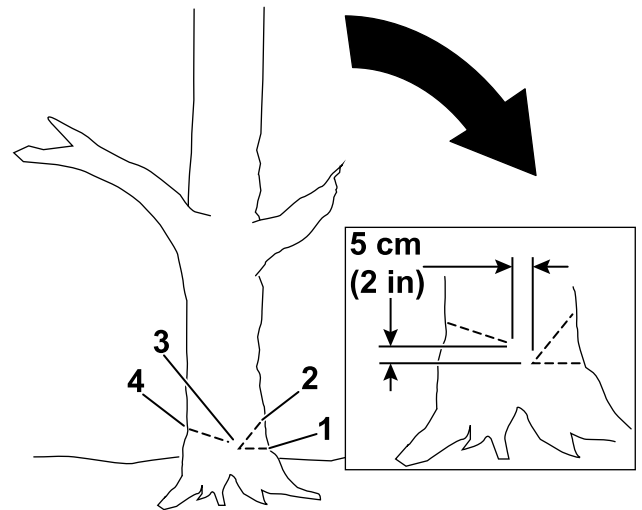

Figure 18
4. Make the first cut a third of the way through the tree diameter on the side where you want the tree to fall (Figure 18).
5. Make a second cut to form a notch, starting the cut at least 5 cm (2 inches) above and away from the first cut (Figure 18).
6. Make the back cut from the opposite side of the notch and about 5 cm (2 inches) higher than the bottom of the notch as shown in Figure 18.
Important: Stop the third cut 2.5 to 5.0 cm (1 to 2 inches) from the notch to form a hinge between the cuts (Figure 18), which keeps the tree from falling in the wrong direction or twisting as it falls.
Note: As the back cut nears the hinge (Figure 18), the tree should begin to fall.